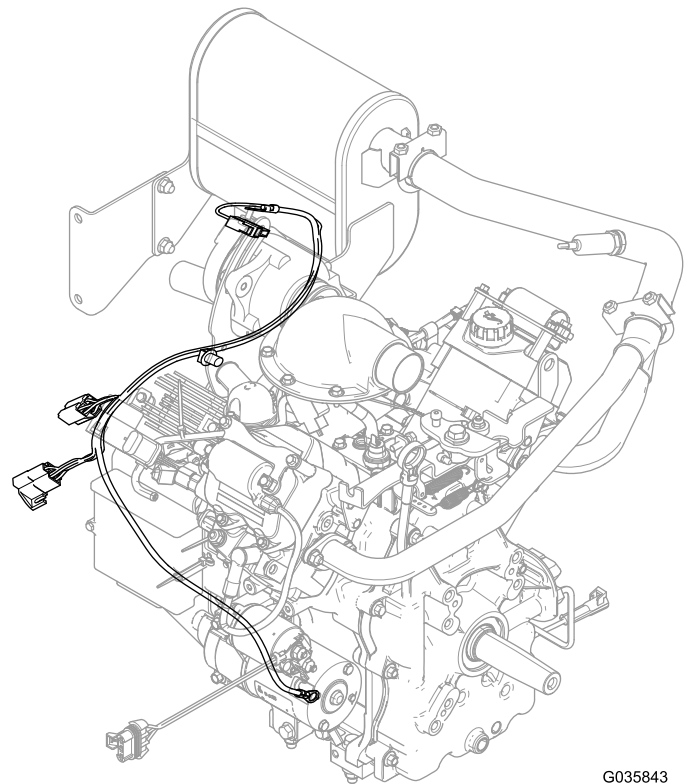

Figure 15
1. Connect the kit wire harness to the alternator (Figure 15).
4. Connect the positive terminal ring to the positive terminal on the starter (Figure 15).